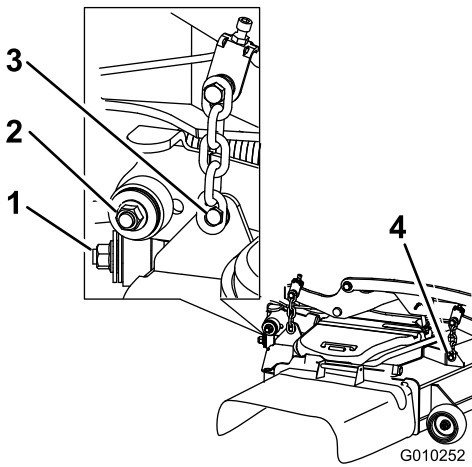

Figure 125
7. Remove and retain the hardware on both sides of the deck as shown in Figure 125.